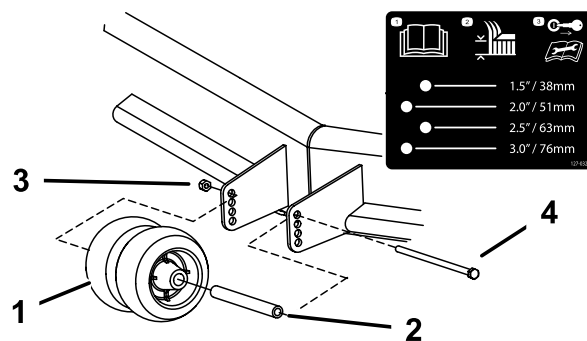

Figure 14
2. Adjust the anti-scalp rollers as shown in Figure 14.